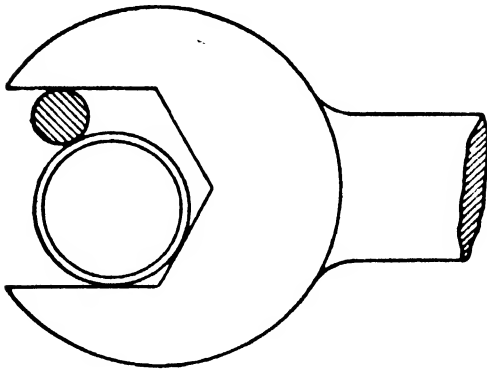

FIG. 98.
**Temporary Wrench.**—A means of converting an ordinary spanner into a temporary pipe-wrench is worth knowing. The sketch (Fig. 98) clearly illustrates the idea, which is the locking of the pipe by the insertion of a broken round file. The size of the pipe is immaterial, providing the wrench is large enough to span it, and the smallest file is sufficient to bite the pipe when pressure is applied.